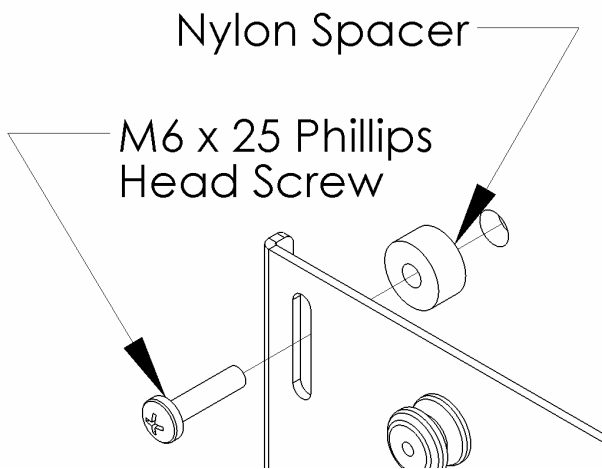
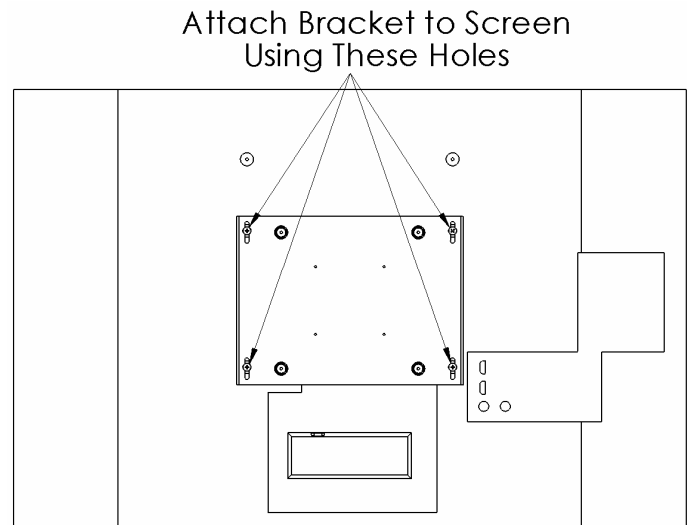

Figure 4
Figure 5
2. Place Nylon spacers over mounting holes on back of screen. Attach mounting brackets to display using the M6 screws (see Figure 4 & Figure 5)